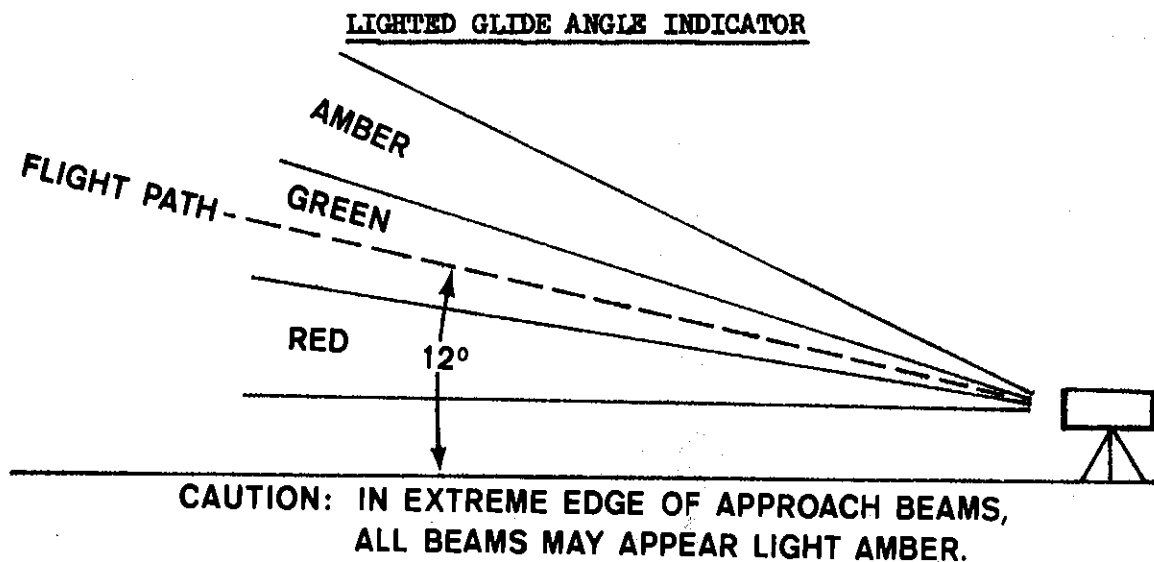
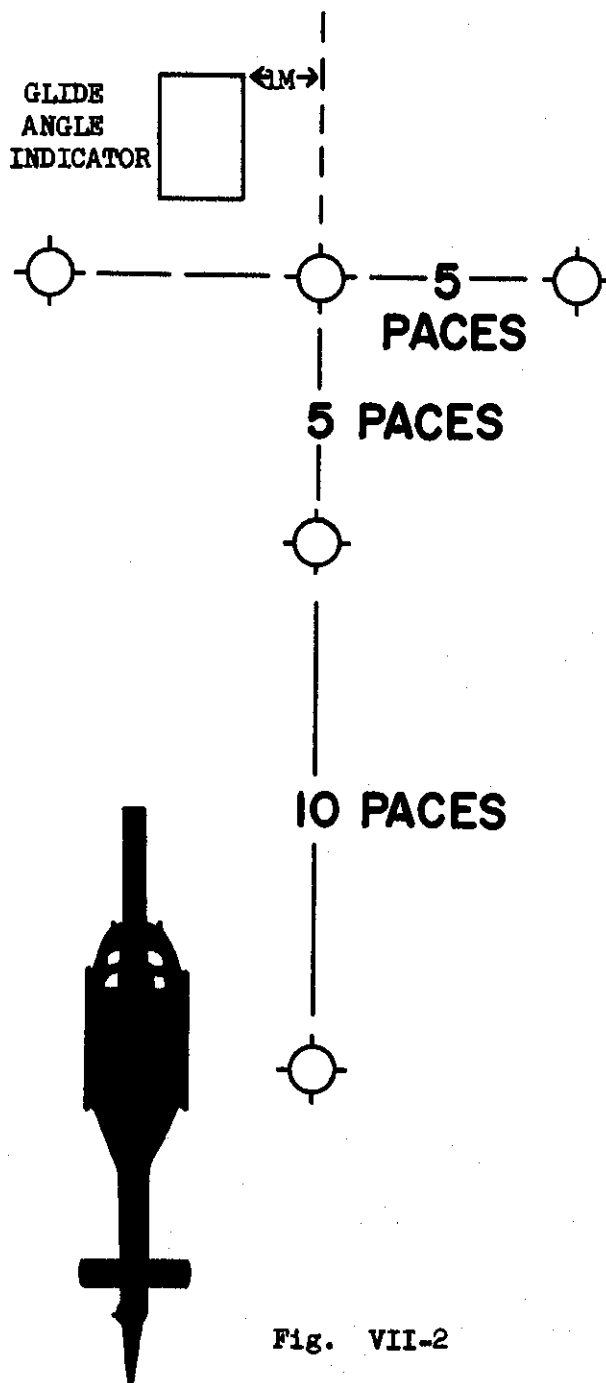

Fig. VII-1
Fig. VII-2
b. Performance of maneuver. The glide angle indicator projects a strong beam of three adjacent colors: Amber, green, and red. (Fig. VII-1) The indicator is placed on the right front of the helipad touch-down point with the beam projected up the final approach. (Fig. VII-2) The approach path is identified by the green colored beam. The amber beam identifies the aircraft as being above the approach path and the red beam identifies the aircraft as being below the approach path. The aviator will call the airfield for clearance to land and maintain final approach altitude until he sees and intercepts the green beam of the indicator. He will then start and maintain his descent down the green indicator which will allow him to make an approach over trees and other obstructions to the helipad. The aviator will direct his attention to the green indicator until he can see the ground around his aircraft at which time he will land to the left rear of the "T".